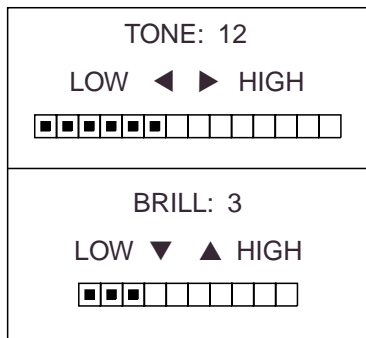

Figure 1-2 Dialog box for adjustment of brilliance and tone of LCD
1. Press the [TONE] key. The dialog box shown in Figure 1-2 appears.